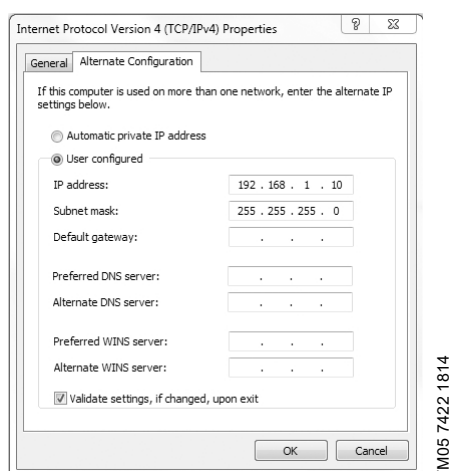

Fig. 1 Example from Windows 7
6. Select the "Alternate Configuration" tab and enter the user-configured IP address and the subnet mask you would like to assign to your PC. See fig. 1.